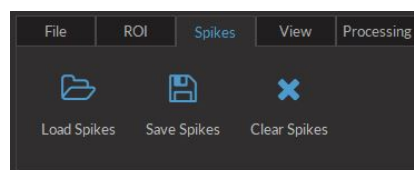

Figure 5.4: Spikes Tab
3. The **Spikes tab** (Fig. 5.4) is used to save/load data relating to regions of interest drawn on an image.